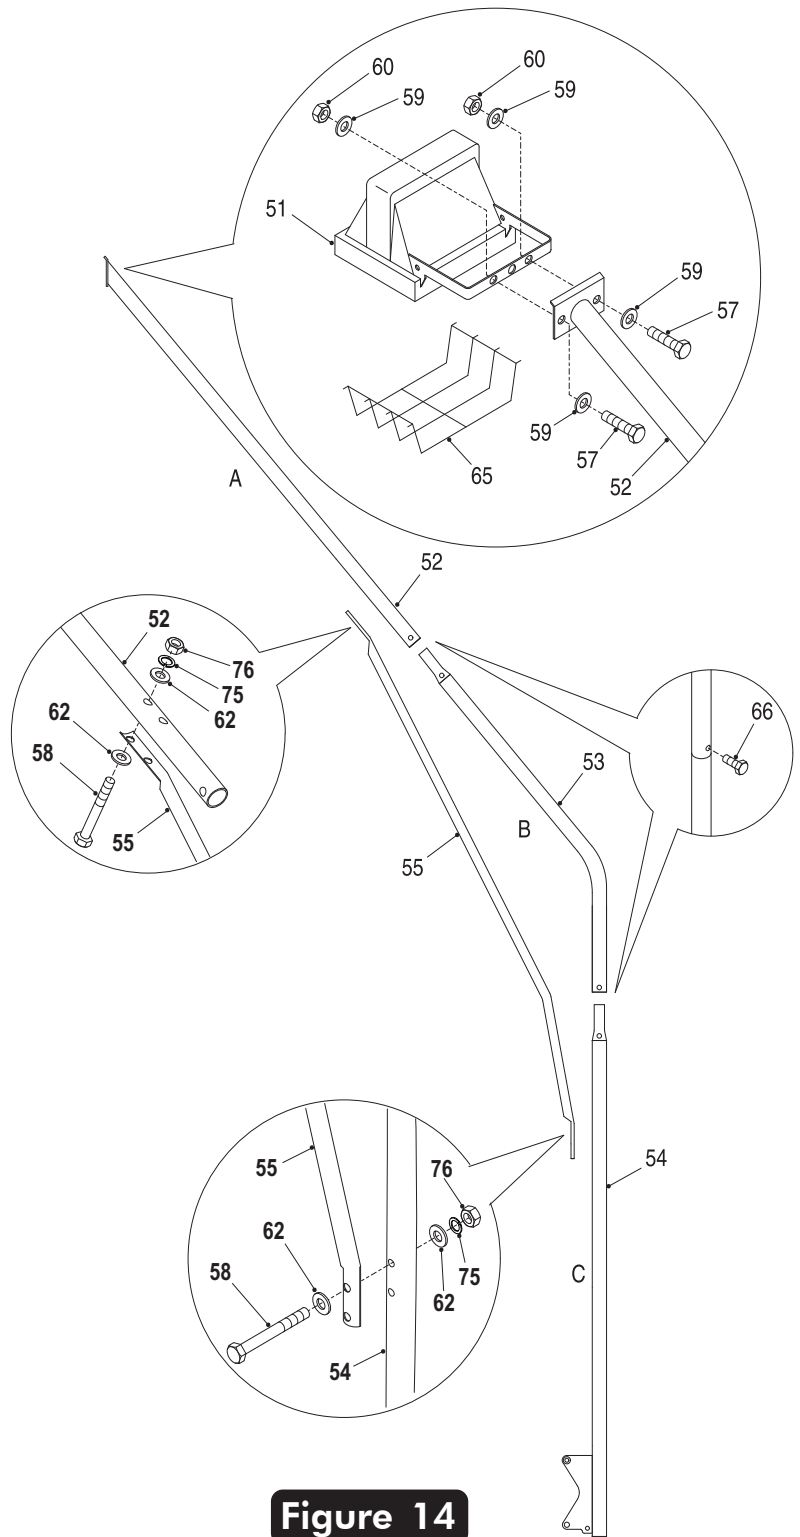

Figure 14
29. Attach Halogen Lamp (#51) to Pole Section "A" (#52) using screws (#57), washers (#59) and locknuts (#60). See Figure 14.
33. Align holes in Pole Support (#55) with matching holes in Pole Section "C" (#54) as shown in Figure 14. Secure Pole Support (#55) to Pole Section "C" (#54) using two bolts (#58), four washers (#62), two lockwashers (#75), and two nuts (#76).
Note: Pole Support will only fit one way, see Figure 14 for proper orientation.